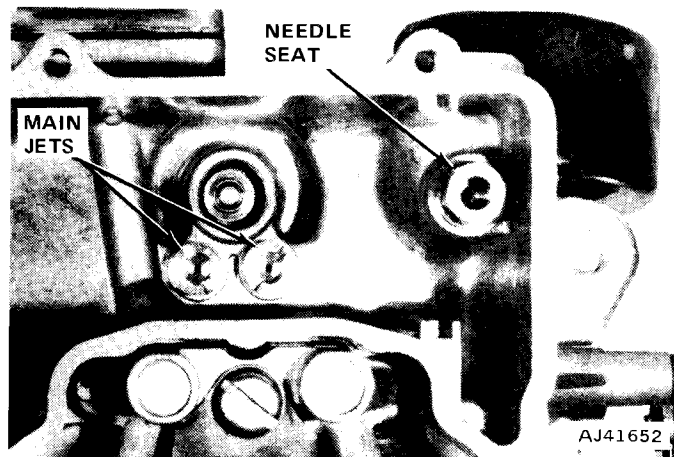

Fig. 4-46 Interior View of Fuel Bowl
(14) Remove fuel inlet needle seat and gasket. Remove main jets with Main Metering Jet Wrench J-10174-01 (fig. 4-46).